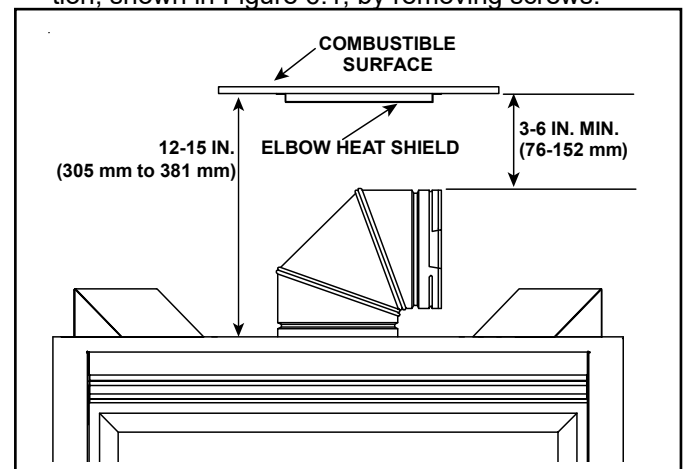

Figure 6.2 Elbow Heat Shield Installation Location
2. If the combustible materials are to be installed between 12 to 15 inches above the top of the appliance, the elbow heat shield is required. See Figure 6.2.
1. The elbow heat shield is not required if combustible materials, or combustible chases, are installed a minimum of 6 inches above the top of the elbow. See Figure 6.2.
2. If the combustible materials are to be installed between 3 inches and 6 inches above the top of the elbow, the elbow heat shield is required. See Figure 6.2.